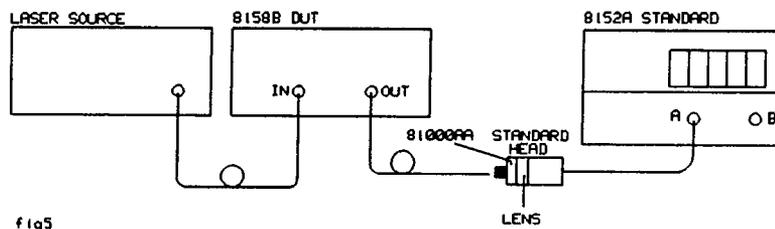

Figure 4-3.
2. Connect equipment as shown in Figure 4-3.